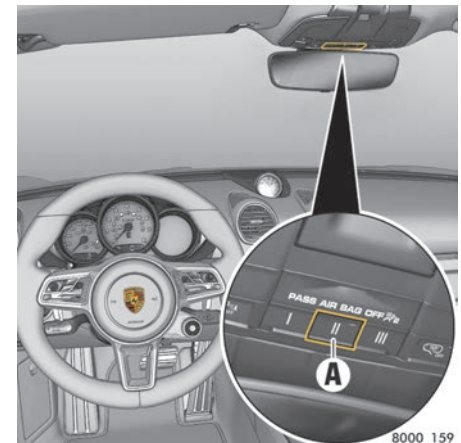

Fig. 91: Programming garage door opener
- ▶ Press and hold the corresponding HomeLink® button on the overhead console. During signal transmission, the indicator light **A** on button **II** (Fig. 91) lights up.